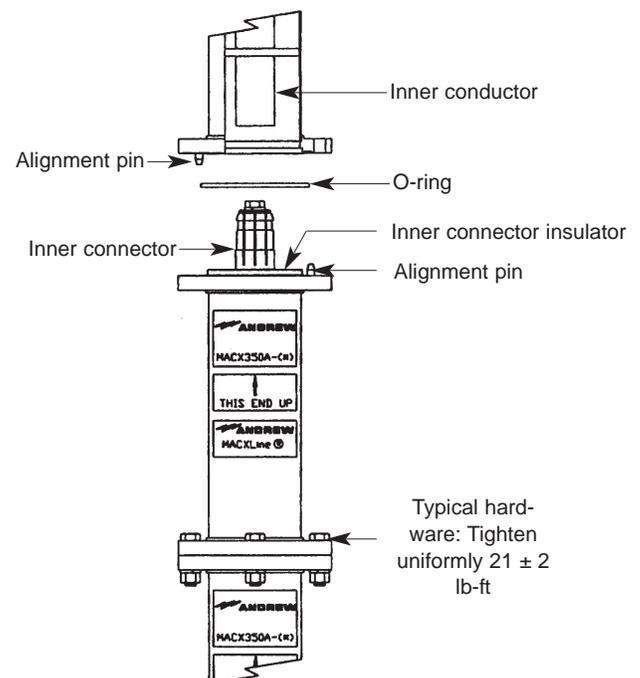

Figure 3
5. Install and alternately snug mounting hardware at 180 degree interval (Figure 2) while maintaining a uniform gap between flanges. Perform final torquing sequence in a circular pattern to a torque value of 21 lb-ft (Figure 3). When properly installed, a small uniform gap should be noted around the flange circumference.